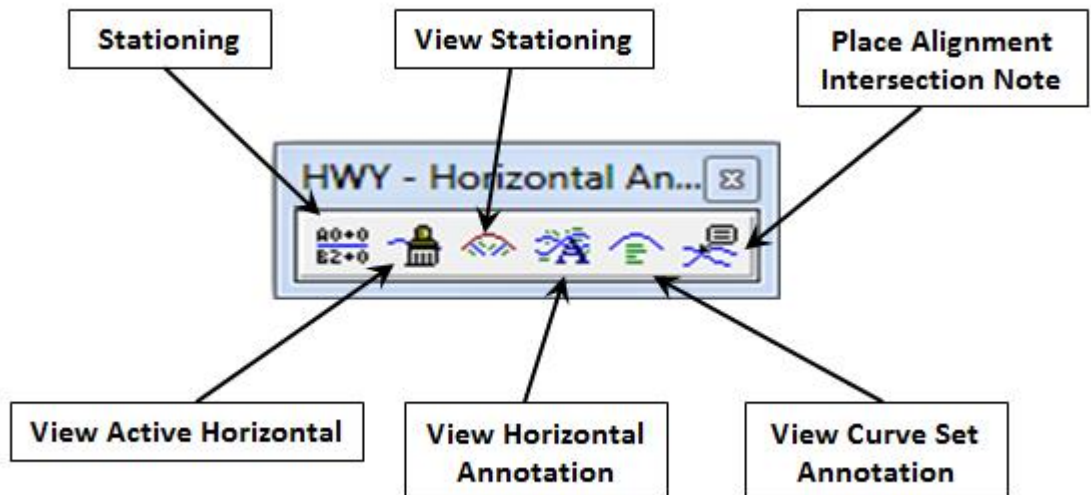

Figure 4-6 InRoads HWY Custom Horizontal Annotation Toolbar
- E. Click **Close** and the tool bar will open. This can be docked anywhere on the screen. The six commands on this toolbar will need to be completed to correctly annotate the alignment. Figure 4-6 displays the HWY Horizontal Annotation Toolbar.